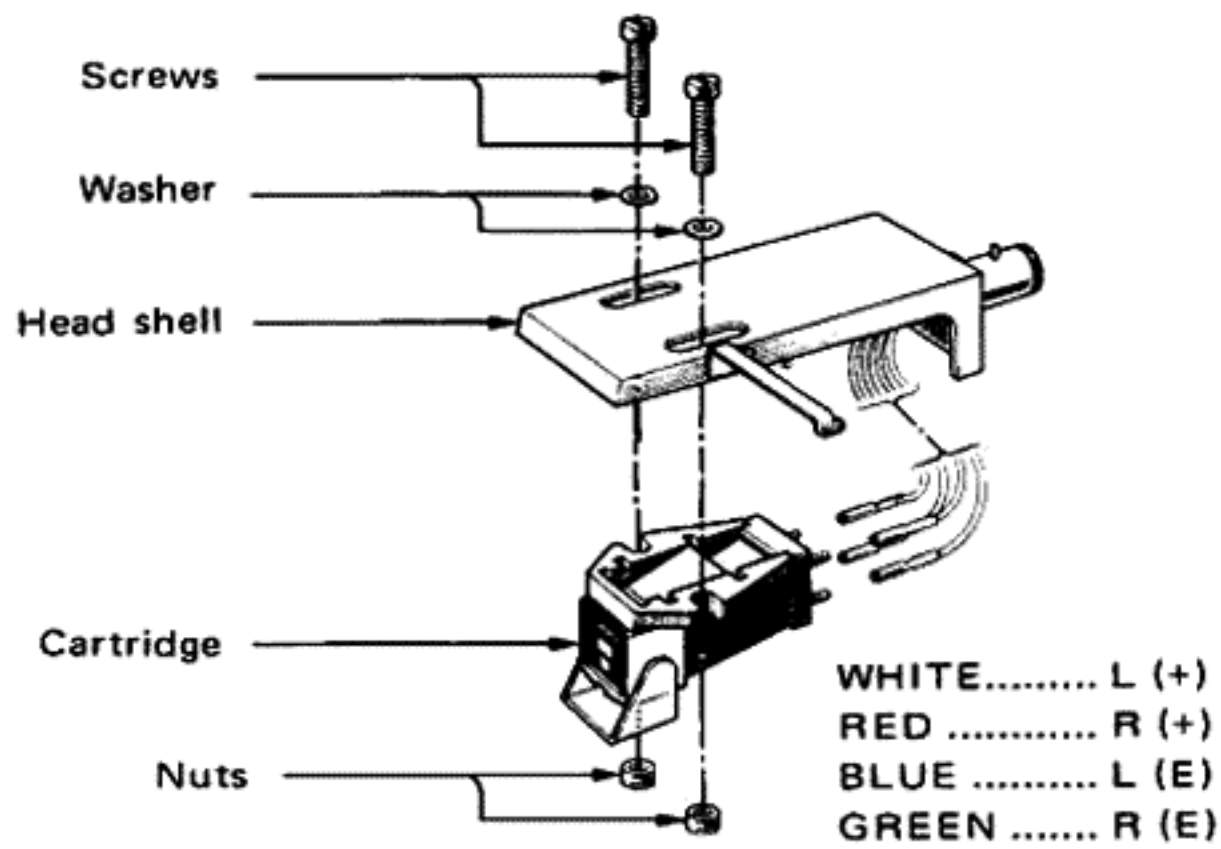

Fig. 15
- Carefully push the connectors of head-shell leads onto the appropriate pins of the cartridge. Refer to Fig. 15 for lead colors. Use a pair of tweezers or long-nosed pliers to handle the connectors.